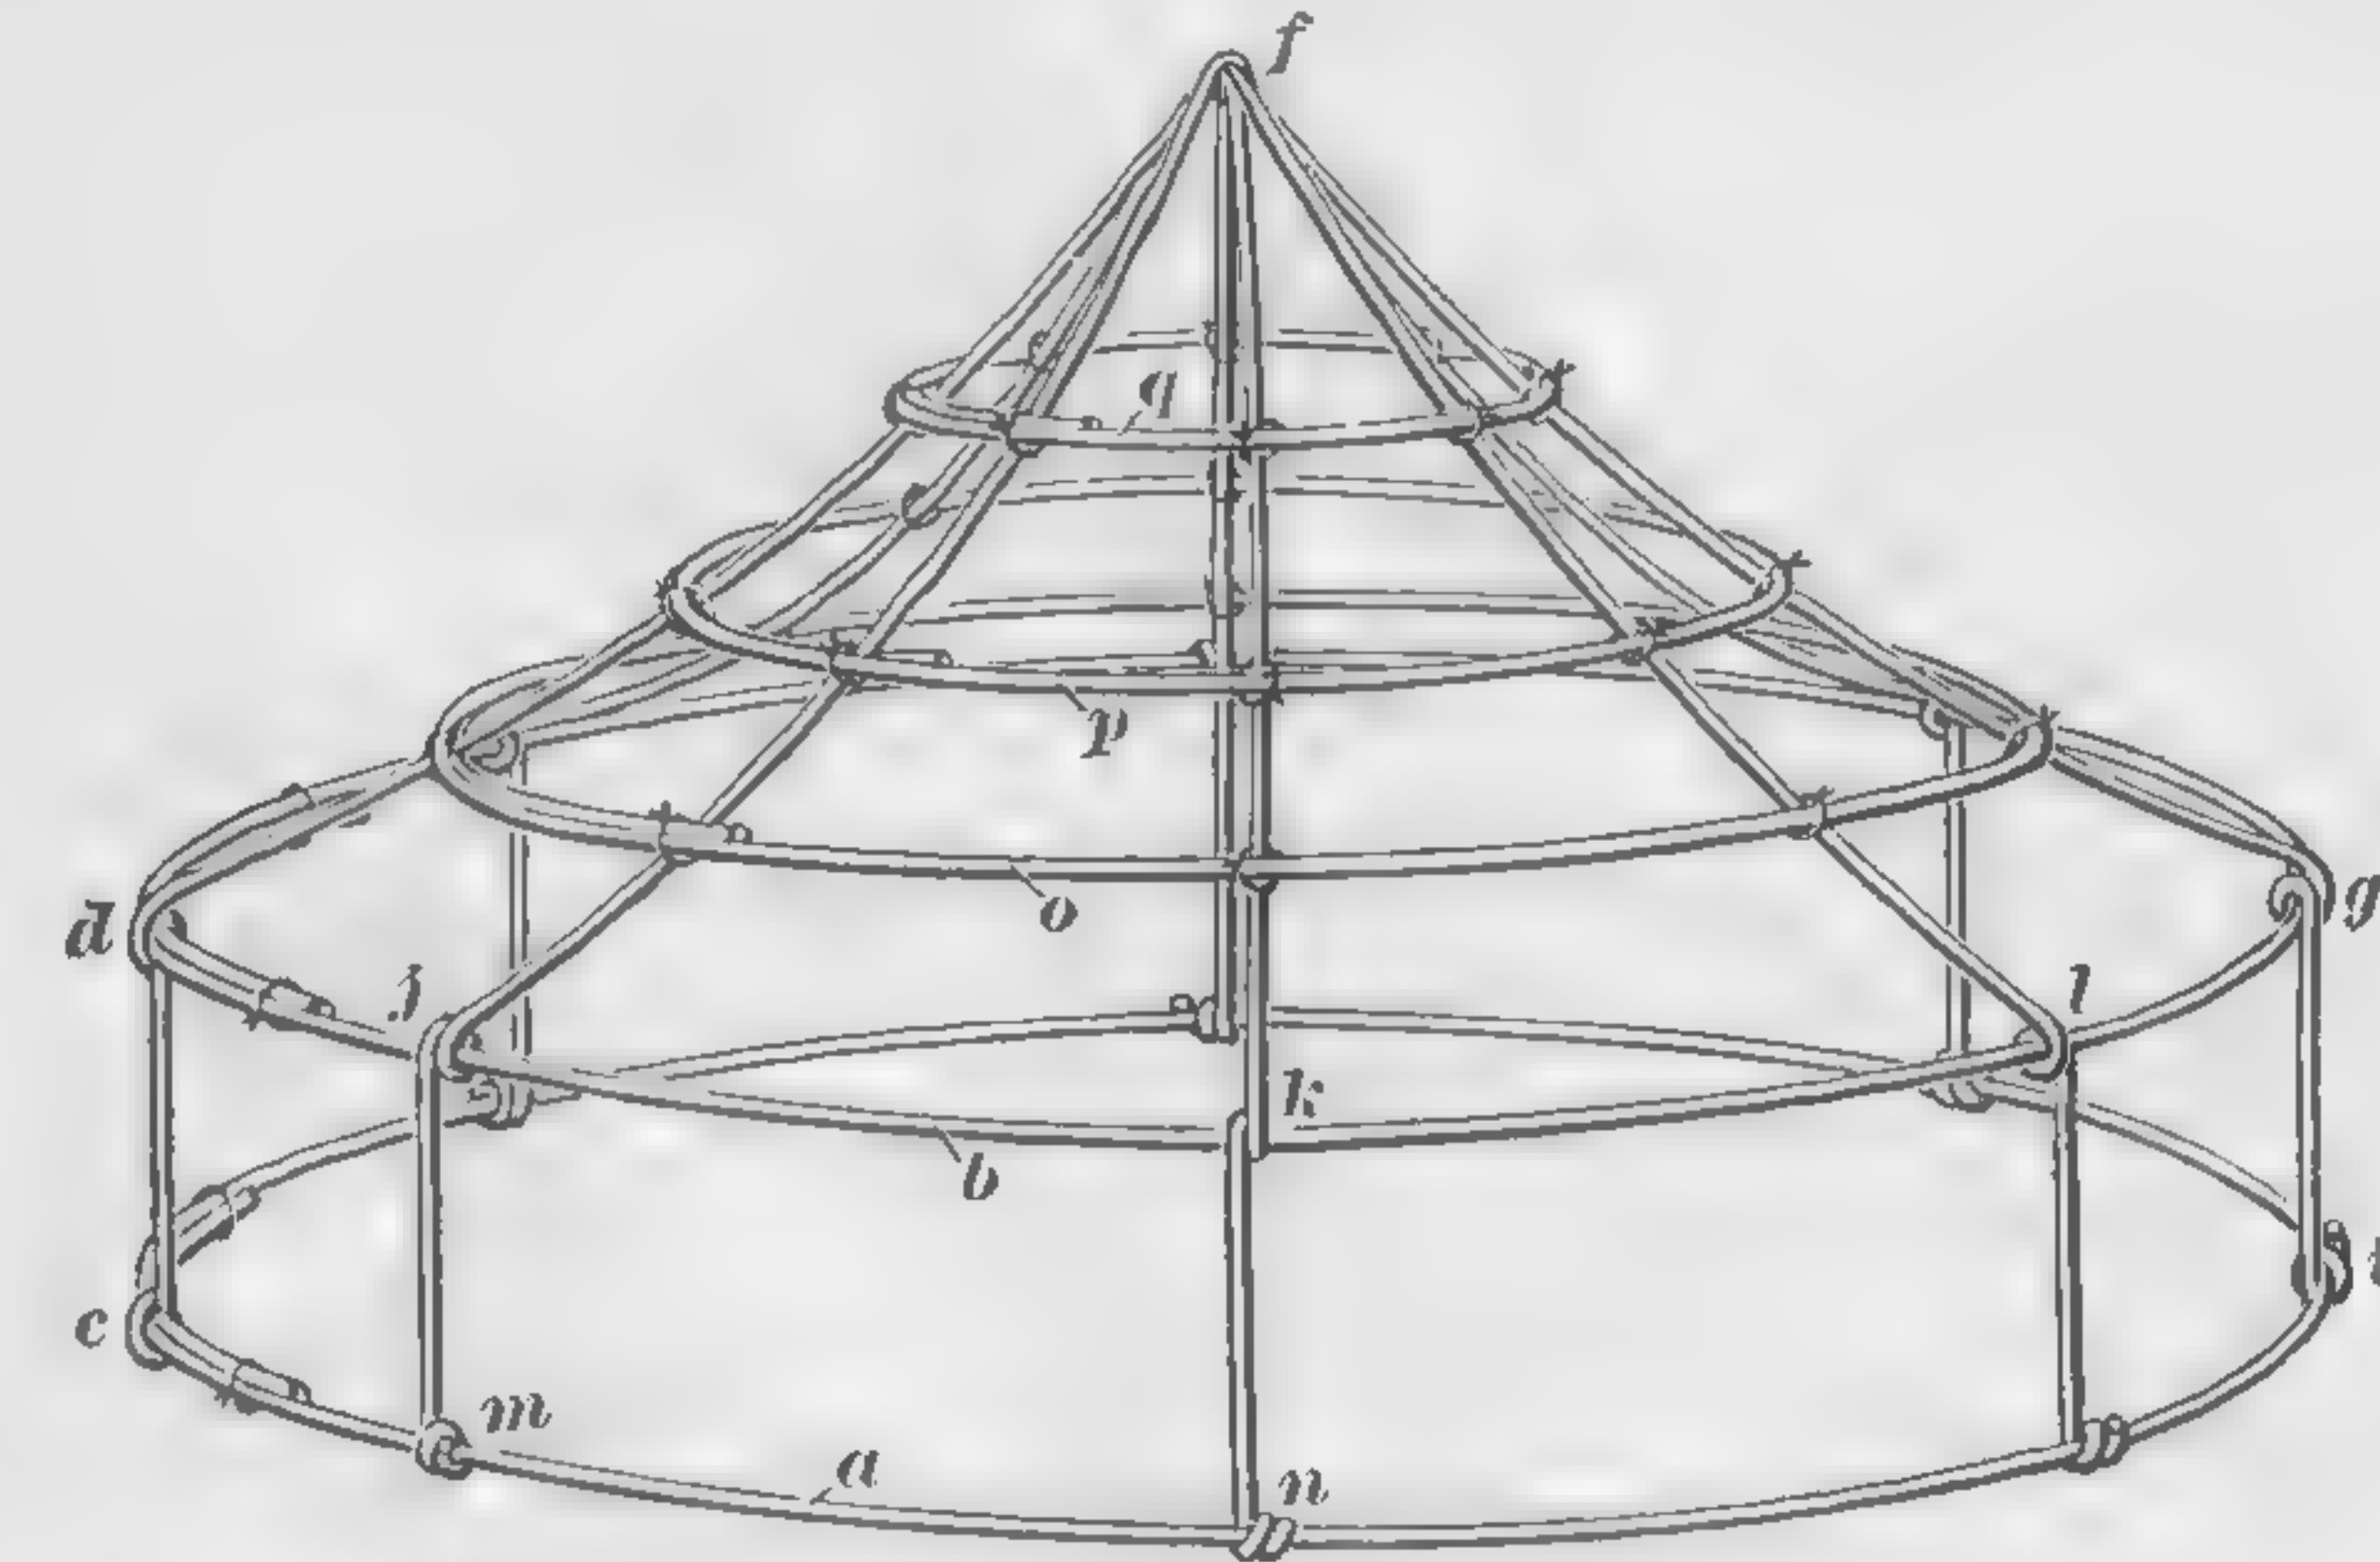

FIG. 21
32. The **apex crown**, shown in Fig. 21, is circular in form, with the support wires bent so as to produce a conical top. The method of construction is a combination of exact measurement and trial. The head-size wire *a* is made in the manner already described, and the top brace wire *b* is made exactly like it. The four support wires that form the pointed crown are exactly alike, but it is necessary to take a piece of wire and make a few trials, first, to determine just what height of top crown is desired. The shorter the wire used, the lower will be the crown. These support wires are bent sharply at the middle, and the halves of each wire are alike. To use an actual
34. Take the top brace wire and the head-size wire, Fig. 21, and mark off each into eight equal divisions with a paper gauge made as previously explained, beginning the marking at the middle points *c* and *d* of the overlapped ends. Now take the support wire that has been bent as in Fig. 22 and set it on the top brace wire so that its bends *d* and *g* rest on the marks *d* and *g*, Fig. 21. Twist the ends around the top brace wire at *d* and *g* and let the ends project downwards. Attach each of the other three support wires in the same way, twisting them around the top brace wire at *j*, *k*, *l*, etc. Now take a $1\frac{1}{2}$ -in. strip of paper as a gauge and mark off the height of the side crown from the points *d*, *j*, *k*, *l*, etc., downwards on the ends of the support wires, and bend these wires outwards at the points thus marked. Next take the head-size wire *a* and set it in place on these bent support wires, with the point *c* directly below *d*, twist the ends of the support wires around it at the points *c*, *m*, *n*, etc., that have been marked, and cut off the ends close to the wire *a*. Press the twists *c*, *m*, *n*, etc., firmly with the pliers and tie the support wires securely with a piece of tie wire at *f*. It now remains to add the brace wires *o*, *p*, and *q*. The brace wire *o* is 1 in. from *b*; the wire *p* is 1 in. from *o*; and the wire *q* is 1 in. from *p*. Marks are made on the support wires to indicate where the brace wires should be tied, using a 1-in. paper strip as a gauge. The wires *o*, *p*, and *q* are attached in the same manner as the brace wire *c*, Fig. 17, as already explained. The final step is to go over all joints and tie wires and tighten them. Less than 5 yd. of brace wire will be required for this crown.